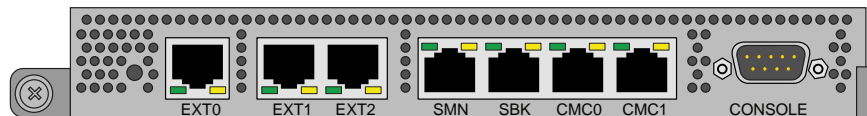

Figure 1-2 UV CMC Connections
- A direct ethernet connection to the **SBK** port (see Figure 1-2) on a CMC (also see the note below).